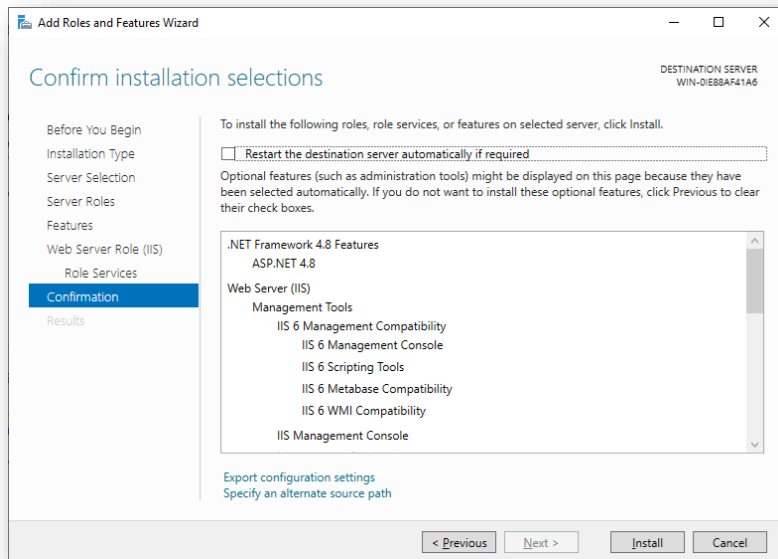

Figure 7 – Add Roles Wizard (Confirm Installation Selections)
9. Click **Install**. See Figure 7 – Add Roles Wizard (Confirm Installation Selections)